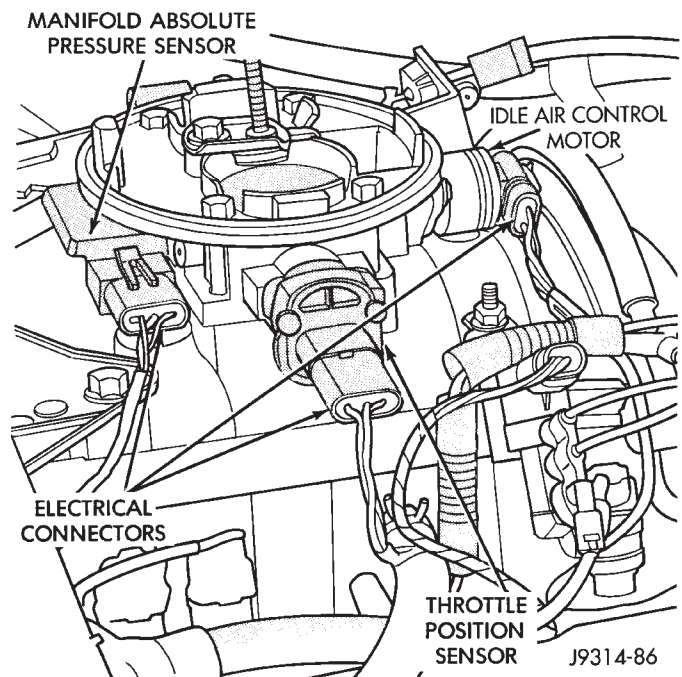
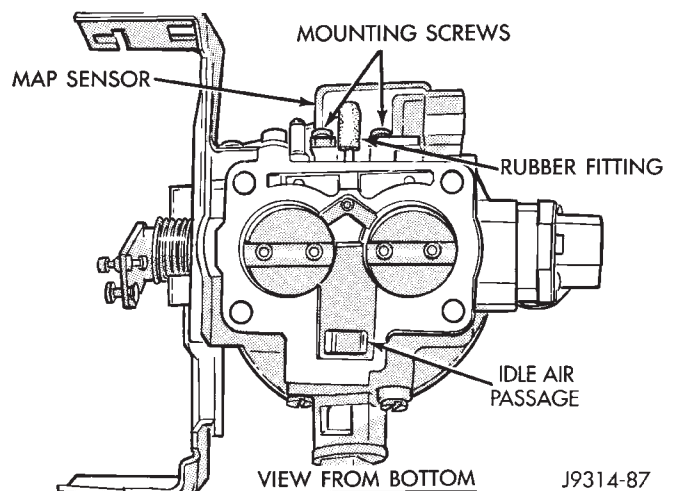

Fig. 16 MAP Sensor
Fig. 17 MAP Sensor L-Shaped Rubber Fitting
The MAP sensor is located on the front of the throttle body (Fig. 16). An L-shaped rubber fitting is used to connect the MAP sensor to throttle body (Fig. 17).
- (1) Remove air duct at throttle body.
- (2) Remove throttle body. Refer to Throttle Body removal in this section.
- (3) Remove two MAP sensor mounting screws (Fig. 17).
- (4) While removing MAP sensor, slide the vacuum rubber L-shaped fitting (Fig. 17) from the throttle body.
- (5) Remove rubber L-shaped fitting from MAP sensor.